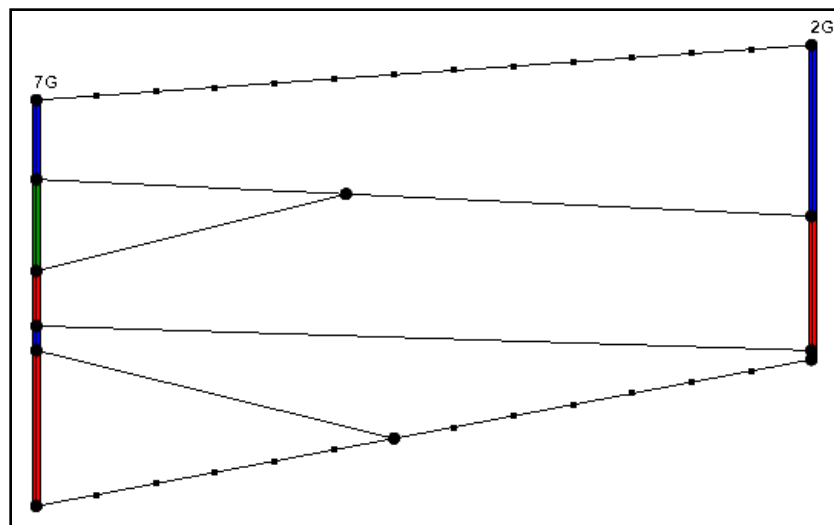

Figure 7 Interior arcs created
3. Using the **Create Arc**  tool, create all the interior arcs shown in Figure 7.